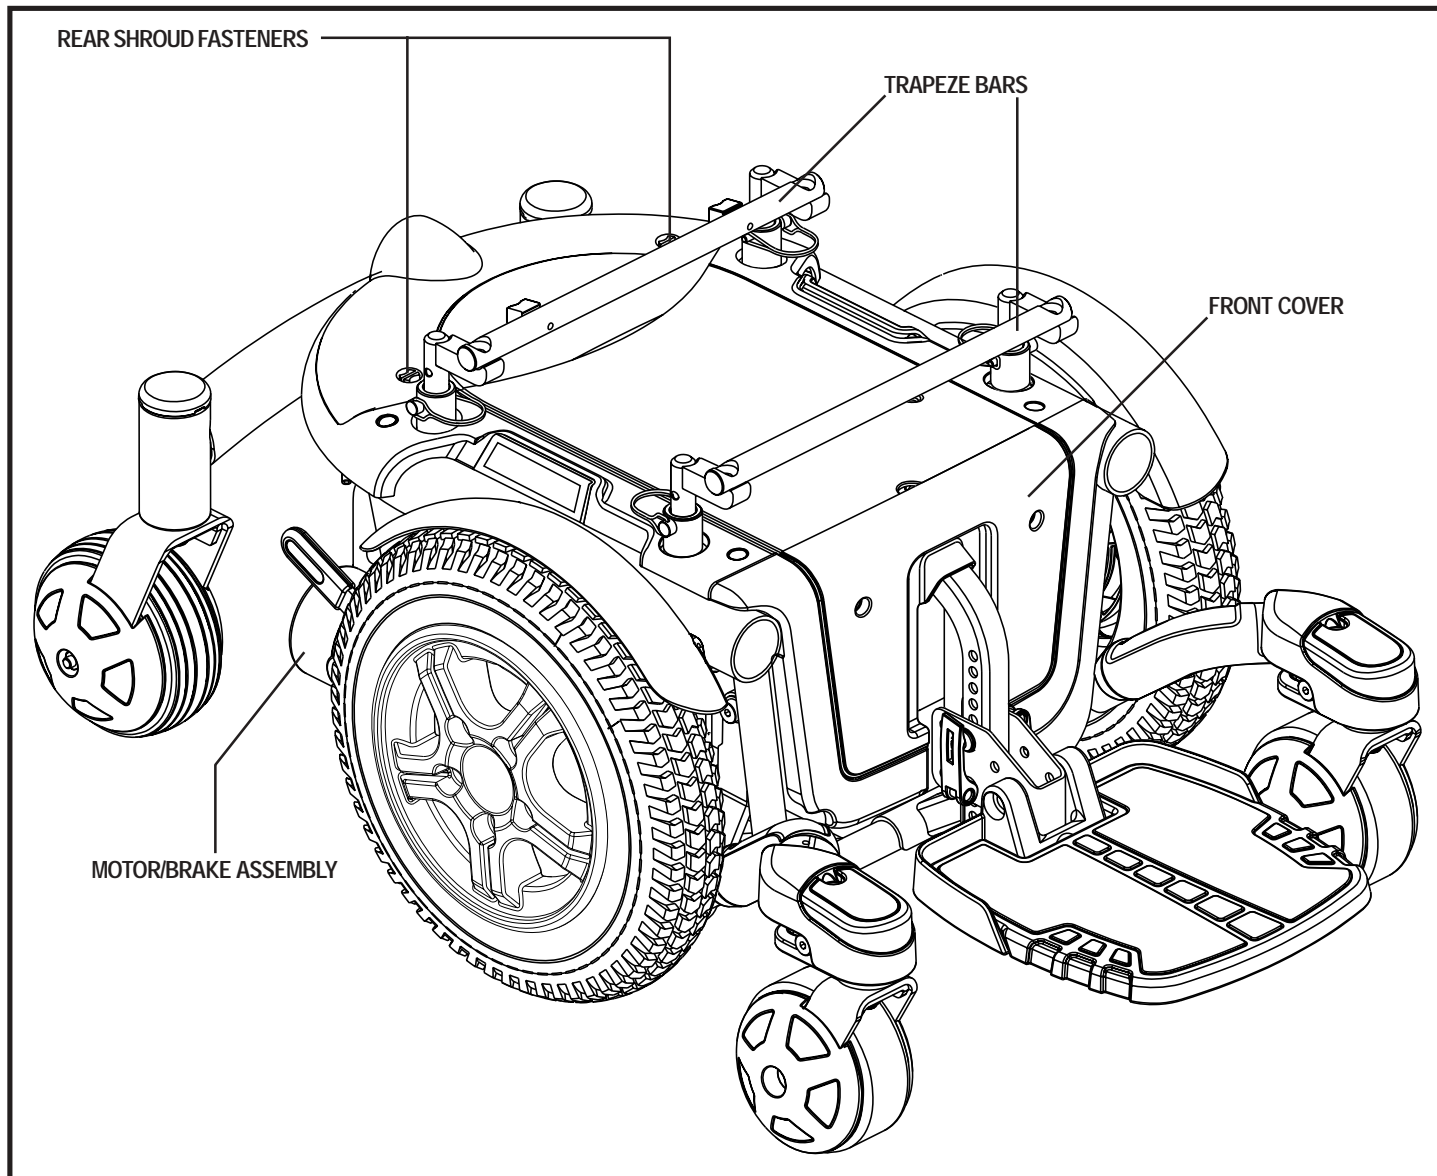

Figure 6. The Quantum 600 Series Power Base
6. Turn the rear shroud fasteners anticlockwise one-quarter turn to loosen. See figure 6.
2. Loosen the rear shroud fasteners and remove the rear shroud cover. See figure 6.